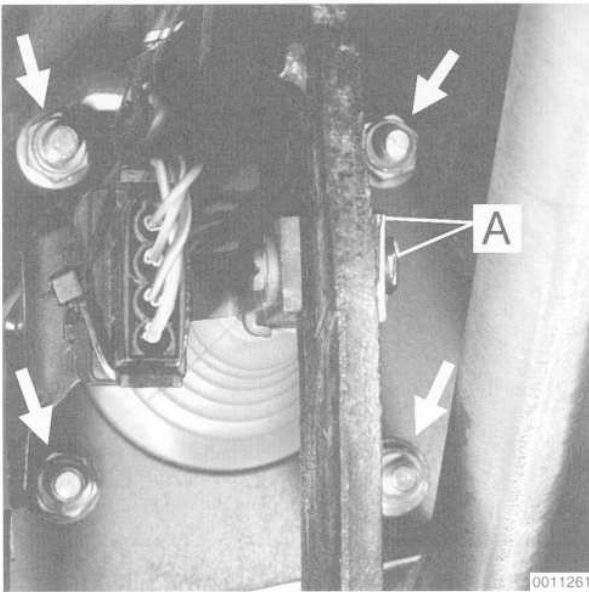

Fig. 13. Brake pedal clevis pin and retaining clip (A), Brake booster mounting nuts shown at **arrows**.
7. Remove the clip and clevis pin from the brake booster pushrod and disconnect it from the brake pedal lever. See Fig. 13.